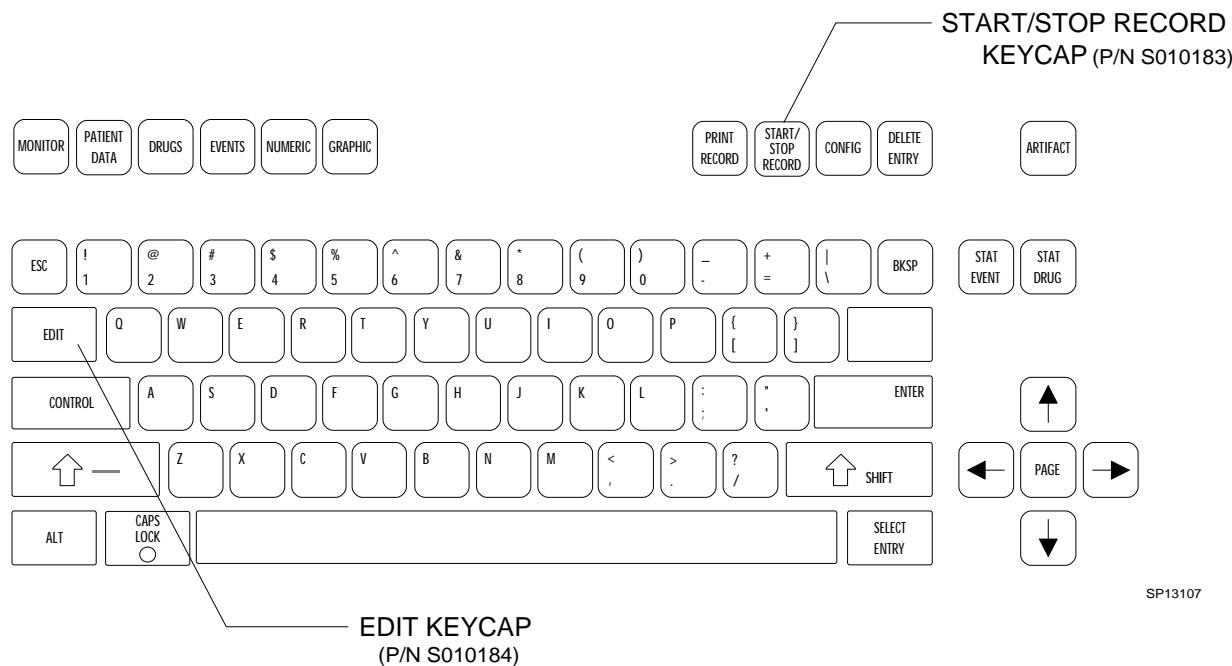

Figure 7: KEYBOARD LAYOUT WITH CORRECT KEYCAPS
39. Pull out the keyboard and verify that the EDIT and START/STOP RECORD keycaps are installed as shown in Figure 7.